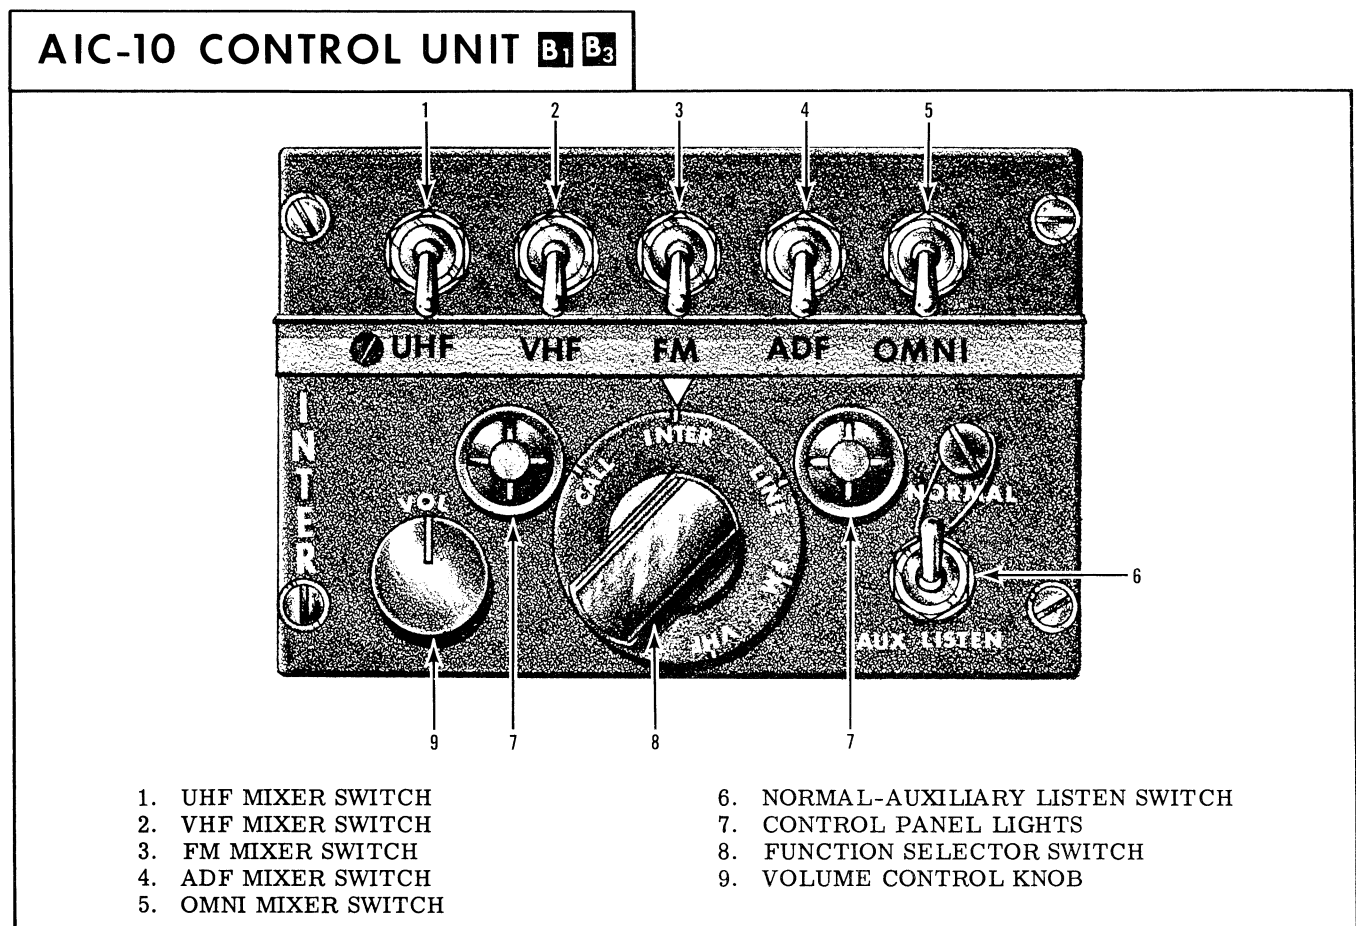

Figure 4-9.
The five mixer switches (1, 2, 3, 4, and 5, Figure 4-9) labeled UHF, VHF, FM, ADF, and OMNI control the mixed-signal facility of the intercommunication set. A mixer switch is on when placed in the aft position. When any switch or combination of switches is placed in the aft (ON) position, and the function selector switch is turned to interphone (INTER) the selected signals of that station can be monitored. When a mixer switch is placed in the forward (OFF) position, the corresponding signal is cut out. Exceptions to this are when the function selector switch is in a position other than interphone. The radio signals of the selected position as indicated by the function selector switch will then be received regardless of the positions of the mixer switches.
The function selector switch (8, Figure 4-9) has five positions labeled CALL, INTER, LINE, FM, and VHF. The spring-loaded CALL position is used to call other stations regardless of the switch positions of their control panels. At the CALL position, the volume control is ineffective, and it is not necessary to press the talk button at the originating station. With the function selector switch in INTER (interphone) position, another station may be called only if that station's function selector switch is in INTER (interphone) position. With the function selector switch set to either LINE (UHF), FM or VHF, the selected signals will be monitored regardless of the positions of the mixer switches, and transmission can be accomplished on the selected signal by depressing the talk button.